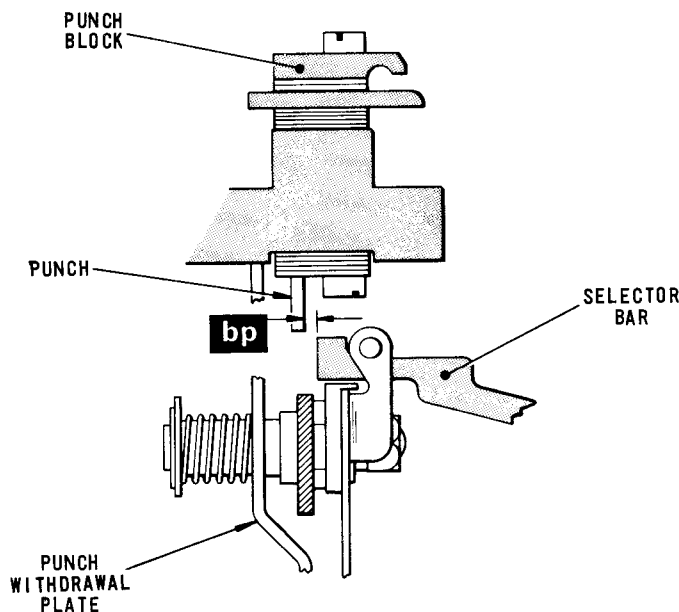

Fig. 4.76 SELECTOR BAR/PUNCH MECHANISM
- 92.1 With the punches, Fig.4.76, withdrawn to their fullest extent from the punch block, check that the vertical clearance between the two outer punches and their respective selector bars is approximately equal.
- 93.1 With the machine in the rest condition and the All Space code (SSSSS) set up on the pins, check that there is a horizontal clearance of .020 - .025 in. (dimension 'bp') between each punch, Fig.4.76, and its respective selector bar.
- 94.1 Depress the Letters key or, if the machine has no keyboard, set up the Letters code (MMMMM) on the pins. Lift the translator clutch abutment and turn the machine by hand until the punching operation has taken place. Continue to turn the machine and check that the punch withdrawal plate, Fig.4.76, withdraws each punch to its fullest extent from the punch block.